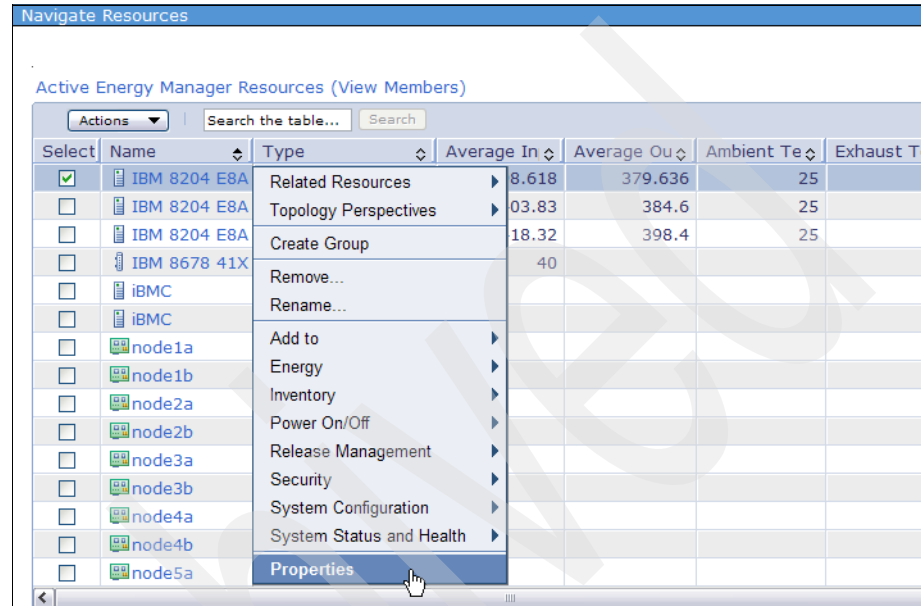

Figure 6-27 Active Energy Manager resources display
1. Click **Active Energy Manager Resources (View Members)** on the Active Energy Manager home page. Then, right-click a resource, and select **Properties** as shown in Figure 6-27.
1. Right-click the resource in the Active Energy Manager Resources (View Members) display as shown in Figure 6-27 on page 209. Select **Properties**.